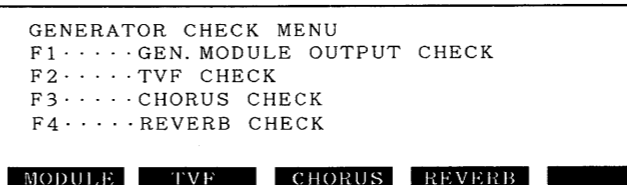

Fig. 5
- [F4] (OUTPUT CHECK 2 (GENERATOR)) Fig. 5